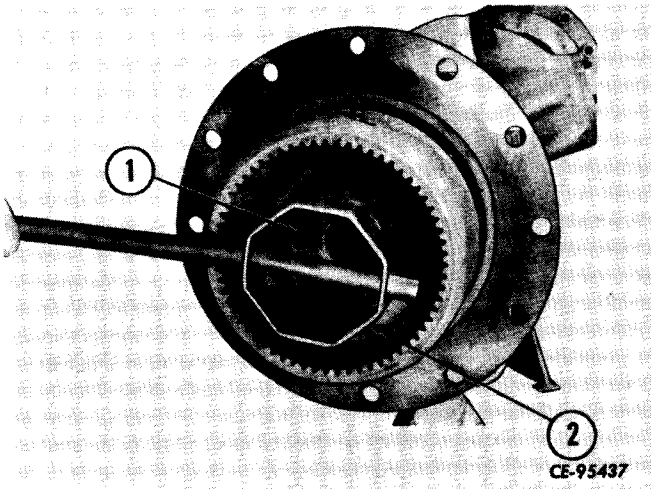

Figure 6-7
Remove bearing adjustment nut (1, Fig. 6-7) using a suitable wrench (2).